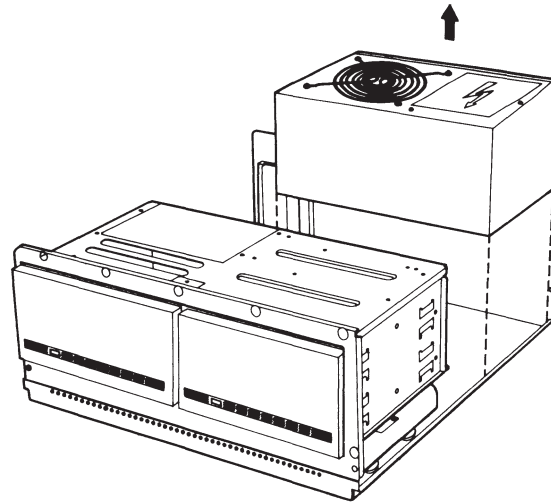

Figure 7-55. Removing the Power Supply Assembly.
3. Slide the power supply  $\frac{1}{2}$ -inch to 1-inch toward the drive housing (Figure 7-55). Be sure to clear the tabs on the bottom of the chassis. These tabs hold the power supply assembly in place.